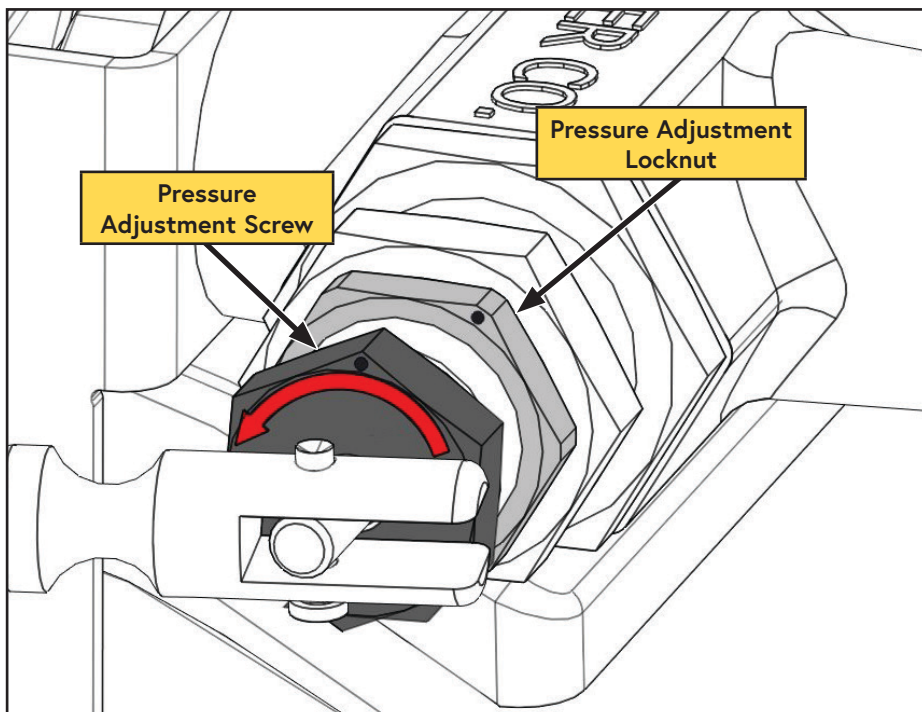

Figure 47 — Adjusting the Unloader Valve
- ☐ While securely holding the "Pressure Adjustment Screw", loosen the "Pressure Adjustment Locknut" (Figure 47).